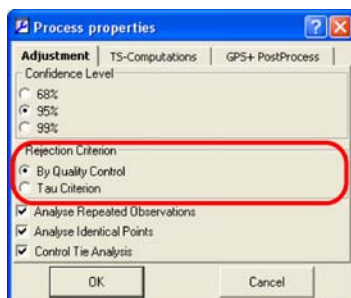

Figure 6-23. Select Rejection Criterion Test
2. On the Adjustment tab, select the desired rejection criterion (Figure 6-23).
Note that  $\text{Tau}_{\text{critical}}$  depends on the number of degrees of freedom and the selected level of confidence (Figure 6-23 on page 6-22).